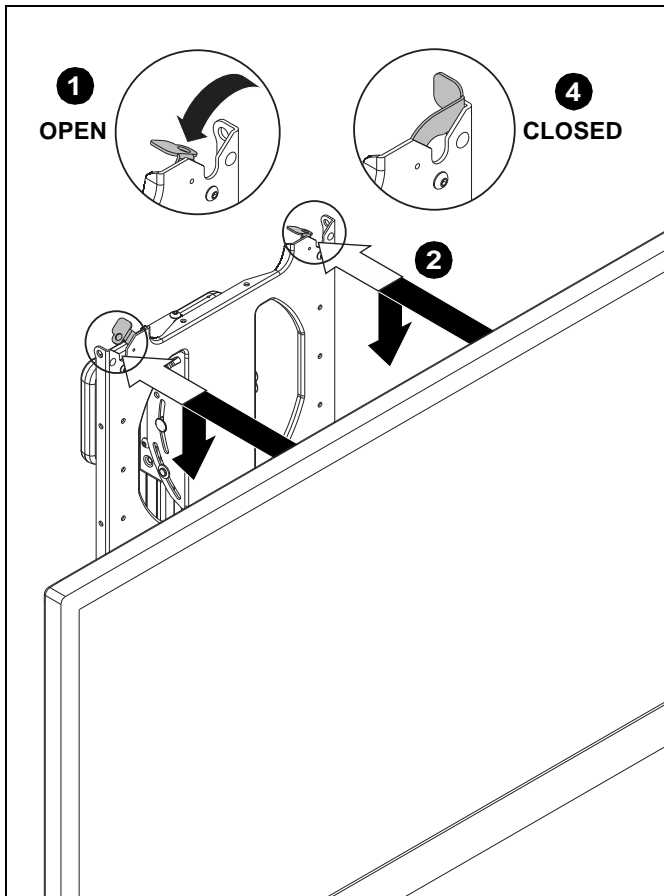

Figure 8
1. Open both flags on top mounting holes in faceplate. (See Figure 8)
2. While supporting both sides of display, align four mounting buttons on PSBU with four mounting holes in faceplate. (See Figure 8)
4. Close flags to secure interface to mount. (See Figure 8)